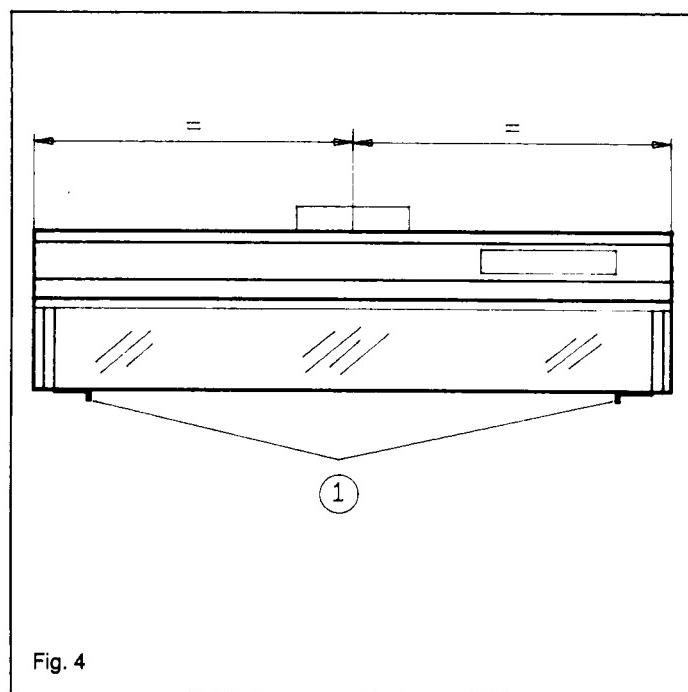

Fig. 4
3. In order to open the grid press the clips (fig. 4/1) at the left and at the right one towards the other.